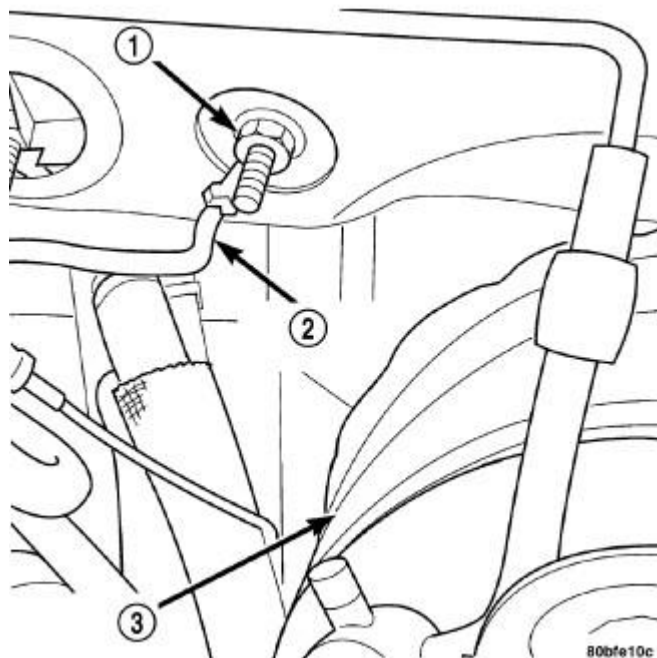

Fig. 11: Removal/Installation Body Ground Strap-Left Side
35. Remove the ground straps from the left (2) and right. Refer to **Fig. 11**. (3) side of the block. Refer to **Fig. 10**.